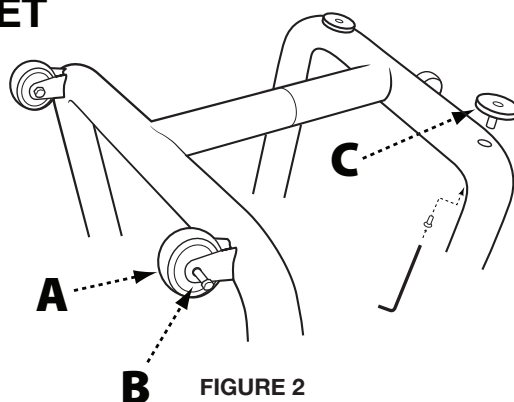
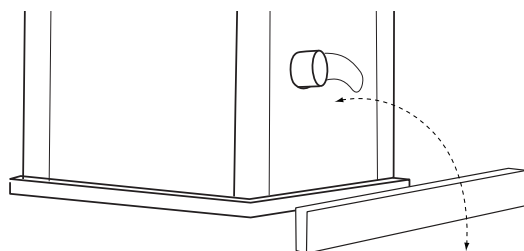

FIGURE 2
FIGURE 3
1. Attach the two fixed wheels (A) to the two left leg, opposite the pivot caster, using the M8 X 53 mm axle pin as in Figure 2.
2. Screw the adjustable feet (C) into the threaded inserts in the right leg, next to the pivot caster.
3. Lay a scrap piece of 2x4 in back of the saw, as shown in Figure 3, to prevent damage to the dust chute when righting the saw.
5. The two adjustable feet (C) can be raised and lowered by rotating them. The feet may be adjusted to level the saw and locked in place with the locking set screws already assembled in the frame, using a 6mm Allen hex wrench. See Figure 2.